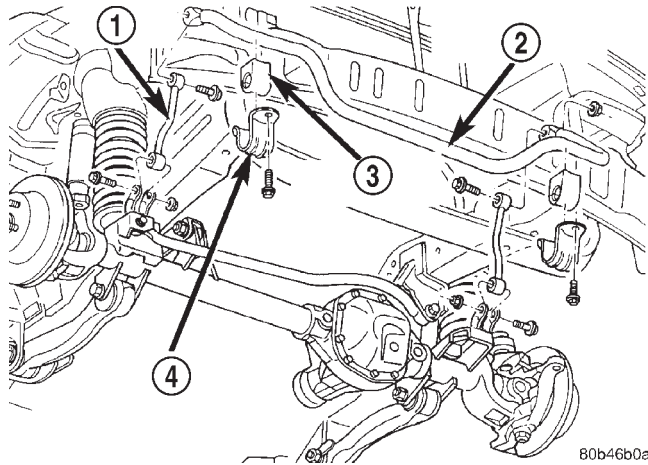

Fig. 11 Stabilizer Bar
(1) Raise and support the vehicle.
(2) Remove link nuts and bolts (Fig. 11) and remove the links.
(3) Remove the stabilizer bar retainer bolts (Fig. 11) from the frame rails and remove the stabilizer bar.